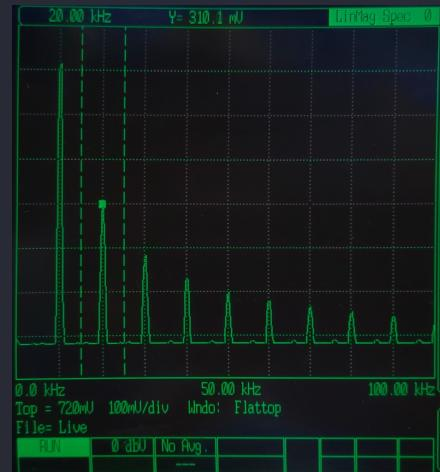

Figure 0.7: SR770 FFT Network Analyzer view
- Saw Wave: (SAW waveform on 33500B) The saw wave is a sum of all harmonics of the fundamental frequency as shown in Fig. 0.7.